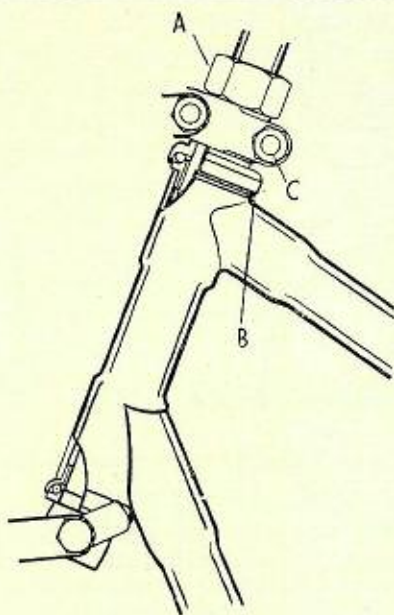

FIGURE 3.
7.—The STEERING HEAD is adjusted in the same manner as the ordinary bicycle, the head lock-nut (a) Fig. 3, is first slackened off and screwed race (b) is adjusted as required, the lock-nut is then again retightened. To facilitate adjustment of the head bearing, it is a good plan to first slacken off the head clip bolt (c).